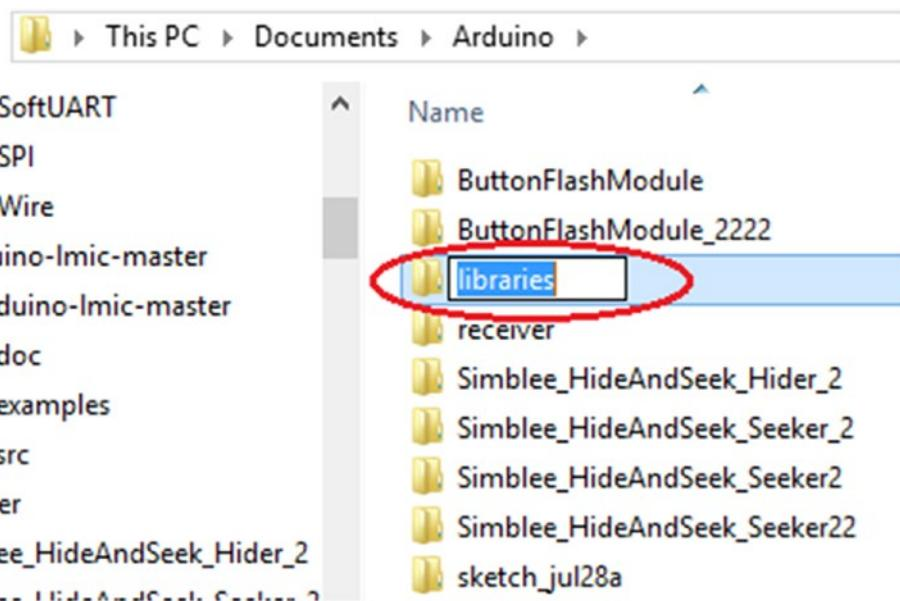

Figure 3-21. Creating a folder named *libraries*
- Navigate to the sketchbook location in File Explorer. If there is no folder named libraries, create a new one (Figure 3-21).